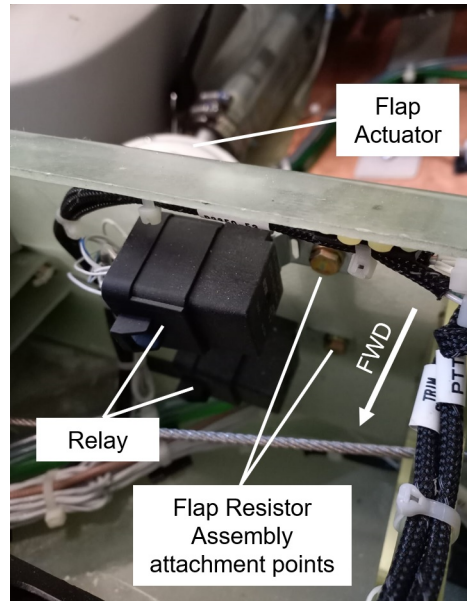
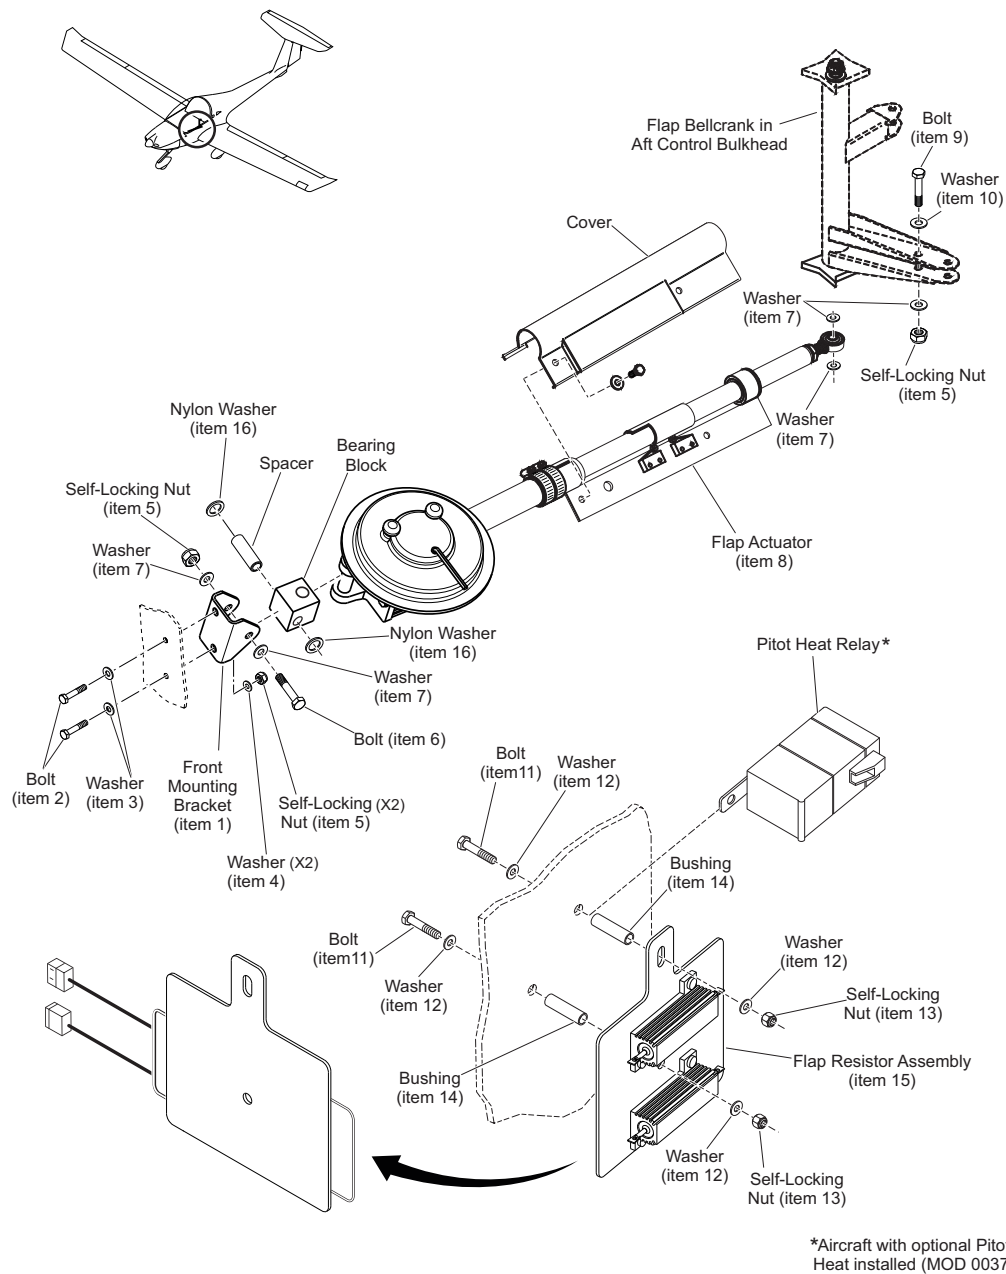

Figure 2. Flap resistor assembly attachment points (looking aft).
Figure 3. Flap actuator and flap resistor assembly installation
3. Remove the bearing block from the existing flap actuator. Refer to Figure 3.
4. Remove the bolts, washers and self-locking nuts which attach the front mounting bracket. Refer to Figure 3.
6. Make sure that the new front mounting bracket (item 1) will be installed on a flat surface of the composite.
7. Install the bolts (item 2), washers (items 3 and 4), and self-locking nuts (item 5) which attach the new front mounting bracket (item 1) to the aircraft. Refer to Figure 3.
8. Apply Aero Shell Grease 22 to the spacer and the bearing block. Refer to Figure 3.
9. Install the bearing block to the new flap actuator (item 8). Refer to Figure 3.
10. Put the spacer and the nylon washers (item 16) in the installation position. Refer to Figure 3.
11. Install the bolt (item 6), washers (item 7), and the self-locking nut (item 5) which attach the new flap actuator (item 8) to the to the new front mounting bracket (item 1). Refer to Figure 3.
12. At the aft control bulkhead, install the bolt (item 9), washers (items 10 and 7), and the self-locking nut (item 5) which attach the new flap actuator (item 8) to the flap bellcrank.
13. Identify the attachment points to install the flap resistor assembly (item 15). Remove the bolts, washers, and self-locking nuts of the attachment points. Refer to Figure 2.
NOTE: The attachment points of the flap resistor assembly attach two existing relays (Figure 2). If MOD 0037 Pitot Heat is installed, the upper attachment point attaches the pitot heat relay (Figure 3).
14. Install the bolts (item 11), washers (item 12), bushings (item 14) and self-locking nuts (item 13) which attach the flap resistor assembly (item 15), and the two relays (three relays if MOD 0037 Pitot Heat installed). Refer to Figures 2 and 3.
19. Install the flap actuator cover. Refer to Figure 3.